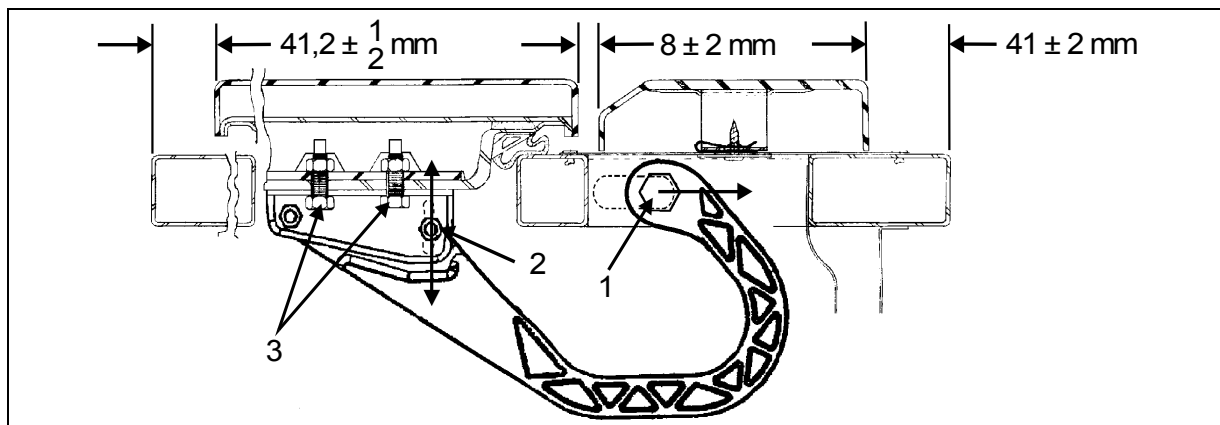

FIGURE 62: EVAPORATOR DOOR
2. Loosen nut (1, Fig. 62).
4. Tighten nut (1, Fig. 62).
5. Loosen nut (2, Fig. 62). Hinge allows the door to be shifted "IN or OUT".
7. Loosen screws (3, Fig. 62). Screws allows the door to be shifted "UP or DOWN".